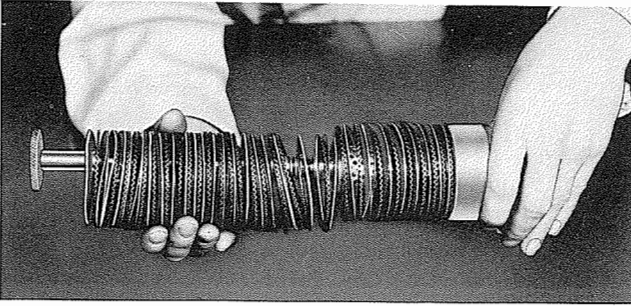

Figure 7-36. Spreading Rear Oil Pump Pressure Strainer Screens and Spacers
- f. Slide the strainer elements, as a complete unit, without changing the sequence, from the strainer core onto a suitable cleaning rod as shown in figure 7-36.